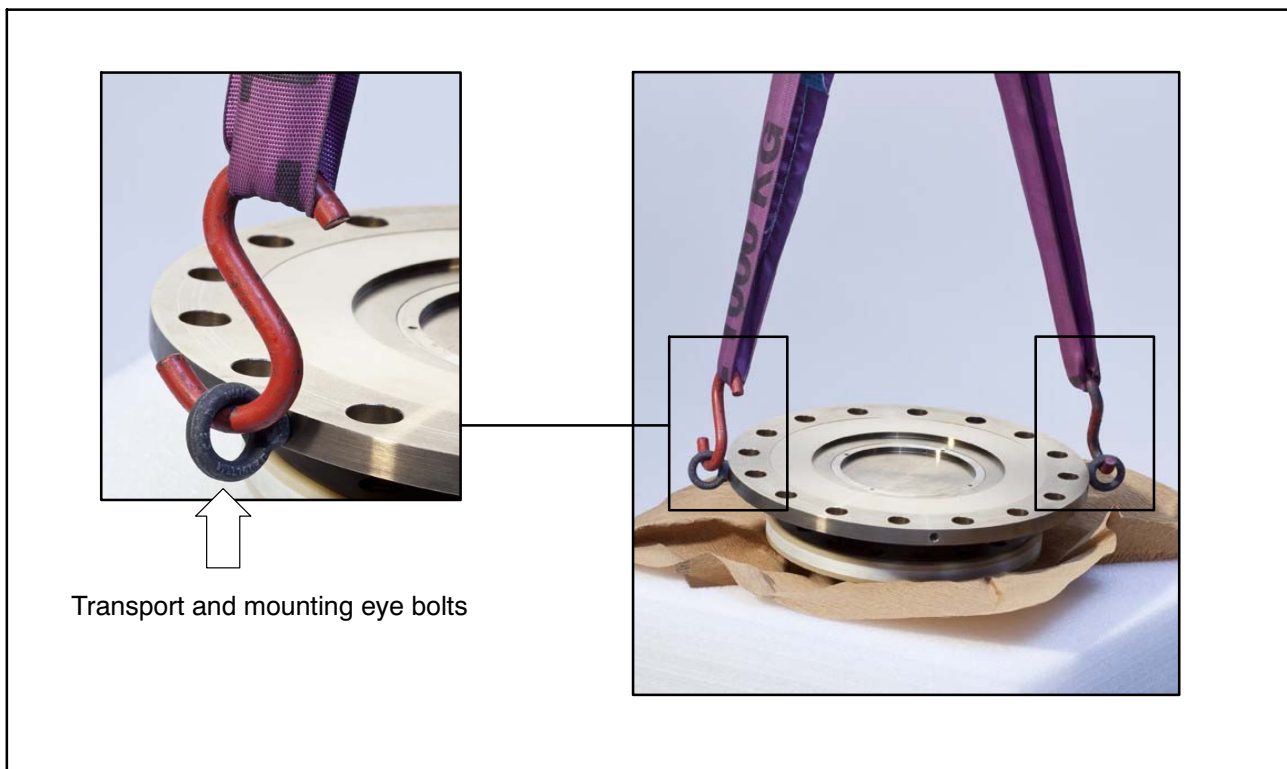

Fig. 4.1: Transport and mounting eye bolts on the rotor
Hook the lifting equipment to these eye bolts as this ensures that the rotor is lifted horizontally out of the packaging (see Fig. 4.1).
1. Lift the rotor out of the packaging, rotate horizontally by 180°, so that flange B is pointing upwards (see Fig. 4.1).
6. Carefully lift up the rotor and move it to the mounting position (see Fig. 4.1).